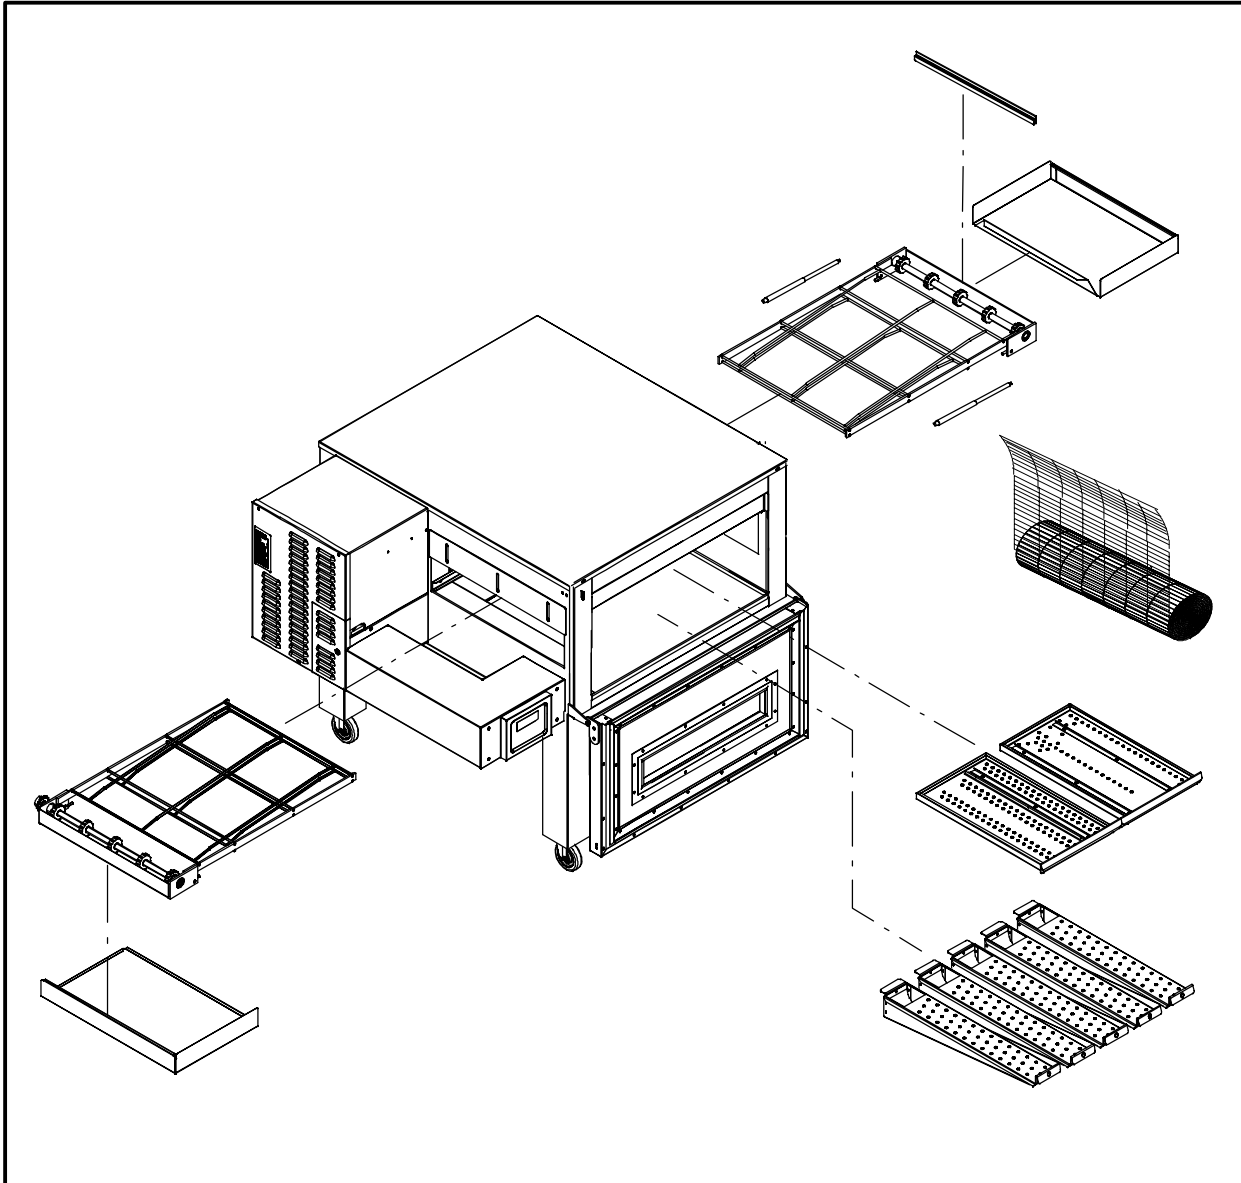

Figure 22
- c.) Slide the belt out from one end. Be sure to roll the belt as shown in Figure 22. Otherwise the belt will be upside down when rethreading.